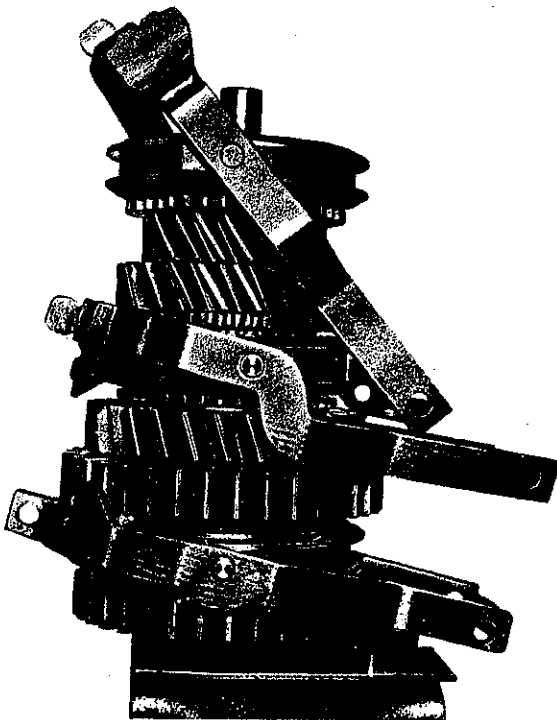

Fig. 40
20. Glue slide pieces (603) with grease into bores of shift forks (604 and 606). Place shift forks into pertinent sliding sleeves (Fig. 40). Seen in driving direction, the welded-on detent washers should be at the right and the offset fork in the center.